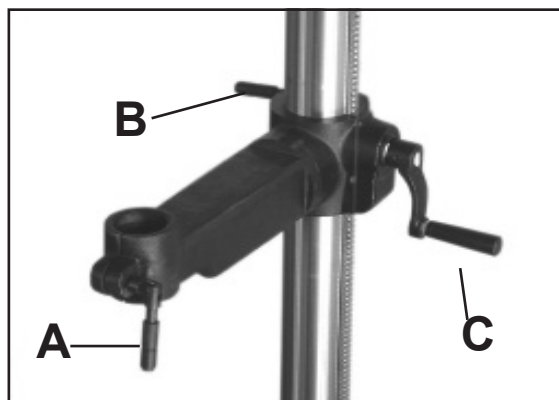

Figure 17
3. Tighten the locking lever (A-Fig.17) onto the table support bracket (B-Fig.17) and install the table raising/lowering handle (C-Fig.17).